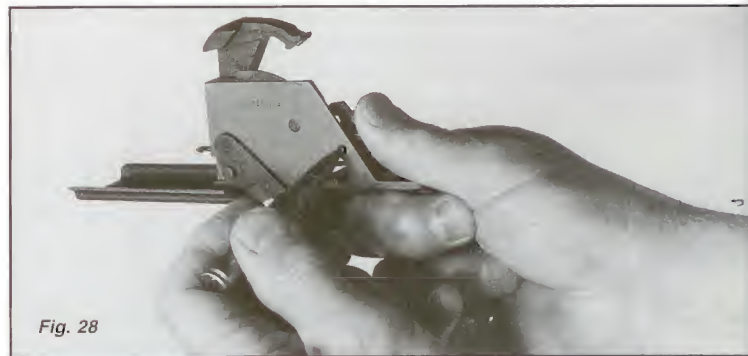

Fig. 28
Push the trigger pin from the left until its head is unseated (Fig. 28). Apply pincer pressure with your right hand (Fig. 29) to slightly compress the hammer spring and pull out the trigger pin (A). Slowly release pressure and remove the trigger assembly, hammer spring housing, hammer spring and hammer spring plunger (Fig. 30). Do not remove sear from the trigger assembly unnecessarily. Push out the hammer pin from the left (Fig. 31) and remove the hammer (Fig. 32). Press the upper arm of the safety away from the trigger housing wall (Fig. 33) to unseat the safety pivot stud from its hole (B), and remove the safety. Slide the trigger guard rearward until its wings are aligned with the safety stud hole. Tilt the right wing inward (Fig. 34) until the trigger guard can be removed diagonally. Unseat the clip ejector spring by pushing through access hole with a cartridge (Fig. 35).